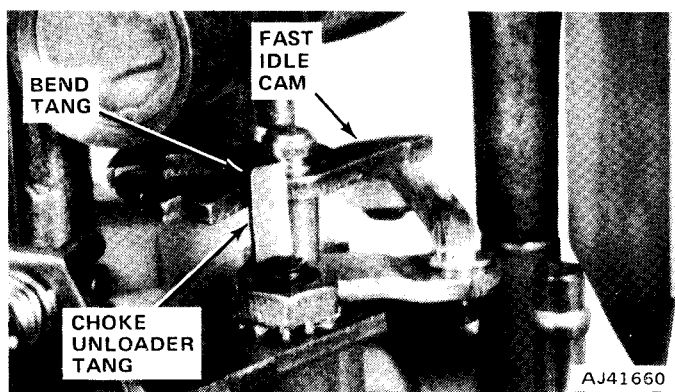

Fig. 4-55 Unloader Adjustment
(3) Adjust by bending the unloader tang which contacts the fast idle cam as shown in figure 4-55. Bend toward the cam to increase the clearance and away from the cam to decrease the clearance.